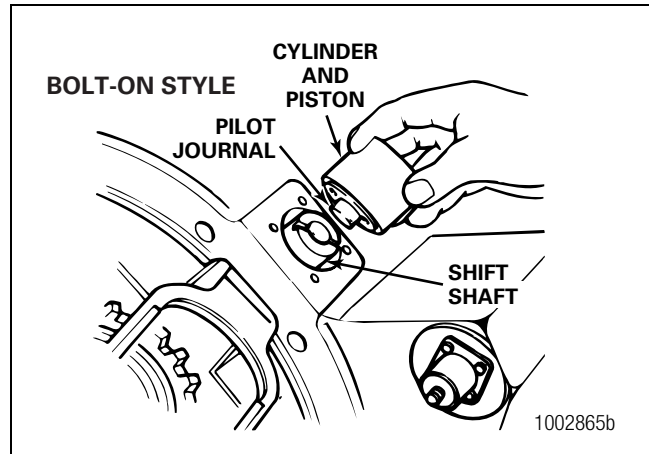

Figure 6.12
9. Install the cylinder into the housing bore. Verify that the pilot journal on the piston is against its bore on the shift shaft. Figure 6.12.